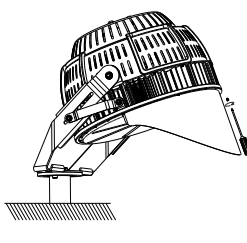

Figure 16
6. Fix the light shield to the luminaire with a screwdriver as required (figure 16);